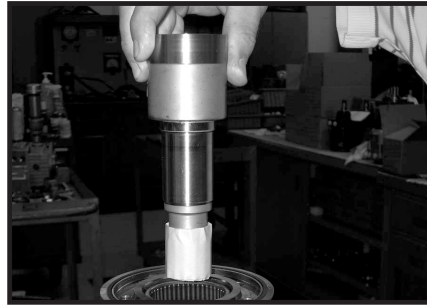

Figure 38
8. Be sure that a generous amount of clean corrosion resistant grease has been applied to the lower (outer) housing bearing (19). Install the coupling shaft (12) into housing (18), seating it against the second thrust washer (14). SEE FIGURE 38.